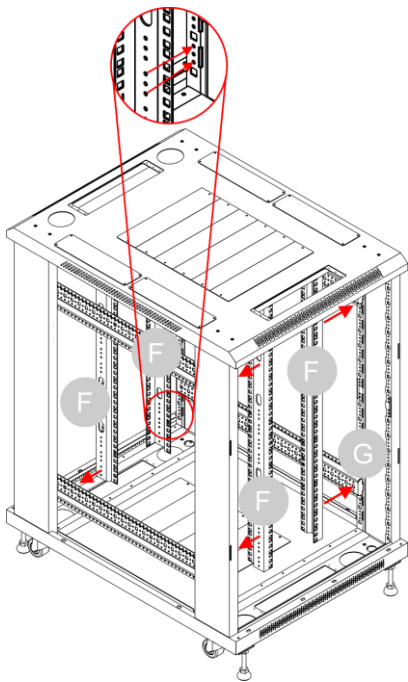

Fig. 31
- 15) Put the 4 **vertical brackets (F)** in front of the **horizontal brackets (G)**. Make sure that the holes of the **vertical brackets (F)** align with the holes of the **horizontal brackets (G)**, as shown in Fig. 31.